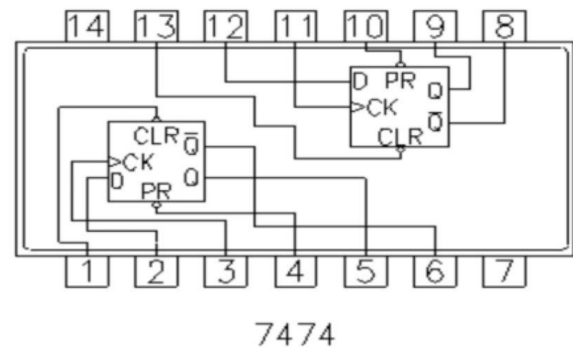

Fig. 3: Connection in 7474 IC
- 3) To create the shift registers, I utilized two 7474 ICs, each containing four D-Flip flops, following the circuit arrangement depicted in Figure 3.